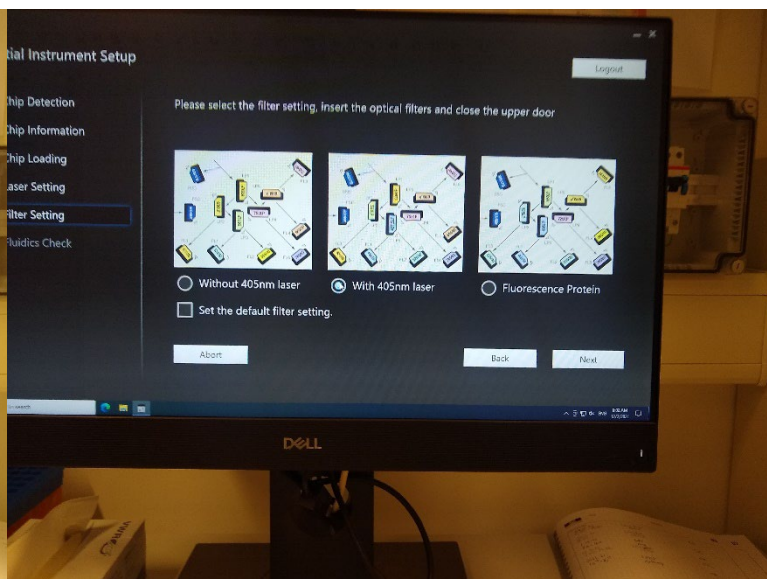

Figure 15
12. Select the middle option ('With 405nm Laser') (Figure 15). This is the configuration of the machine. You can check it by opening the top door of the machine, but for us it will always be the middle option. Press Next.